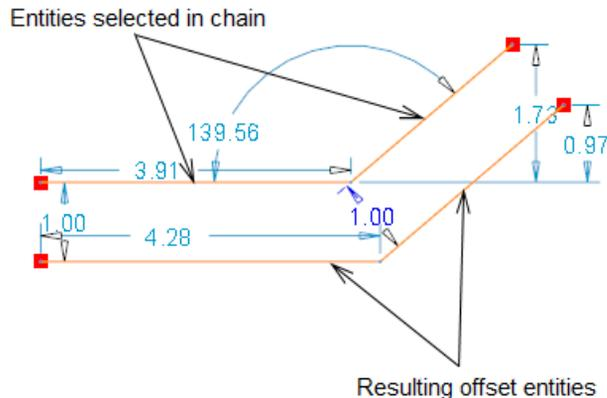

Figure 3-21 Offset created in chain mode
3. To create offset of a chain of two or more entities, select the **Chain** radio button from the **Type** dialog box and then select the entities in chain. Specify the value of offset in the **Enter offset in the direction of the arrow [Quit]** edit box and choose the **OK** button to create the offset of the selected entities, refer to Figure 3-21.